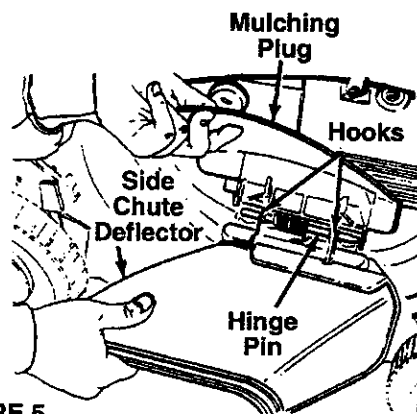

FIGURE 5.
- To convert your mower from a mulcher to a side discharge mower, lift the mulching plug. See figure 5. Slide the two hooks on the side discharge deflector under the hinge pin on the mulching plug assembly. Lower the mulching plug.